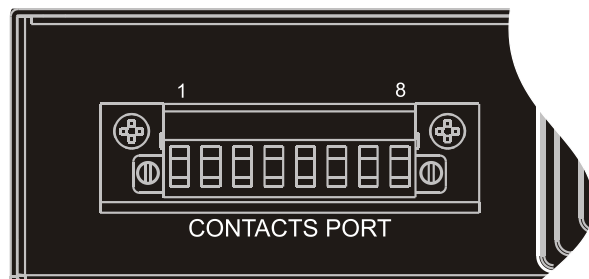

Fig. 4: Focus on contacts port.
The contacts port is formed using eight (8) pins numbered from left to right (see fig. 4), which can be connected to an external monitoring system (such as a BMS) in order to monitor the operational status of the ATS.